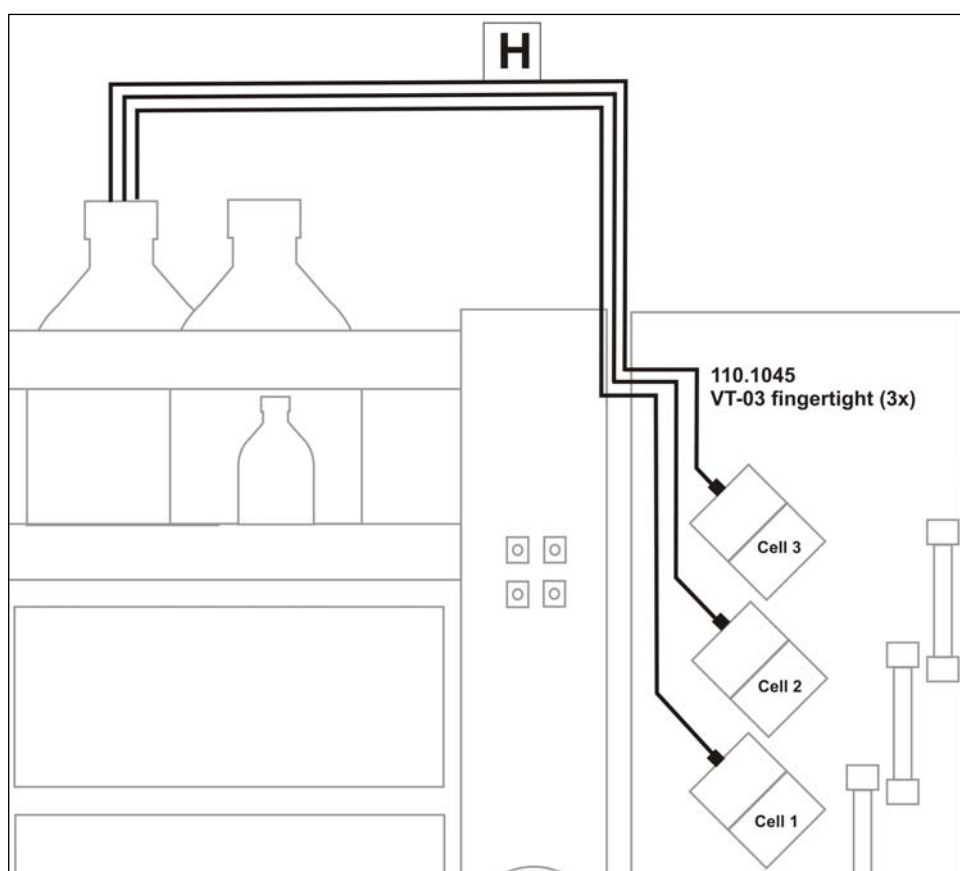

Figure 21. *Assembly H: Connection between cell – waste bottle.*
9. **Assembly H** *DECADE II outlet assembly (180.0218)*: Three assemblies H are provided to connect the flow cells to the waste bottle(s). Connect the PEEK tubing to the outlet of the VT-03 flow cell using the KEL-F fingertight. Guide the tubing through the tubing hole in the DECADE II into the waste bottle as depicted in figure 21.